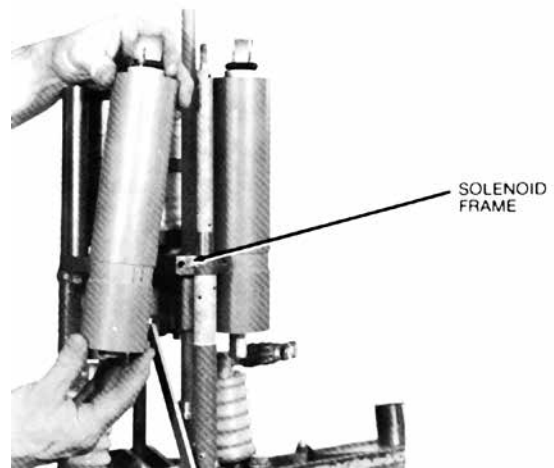

Figure 15. Removing contact tubes
- D. Grasp both contact tubes near their free ends and pull apart enough to release the tubes from the solenoid frame (Figure 15).